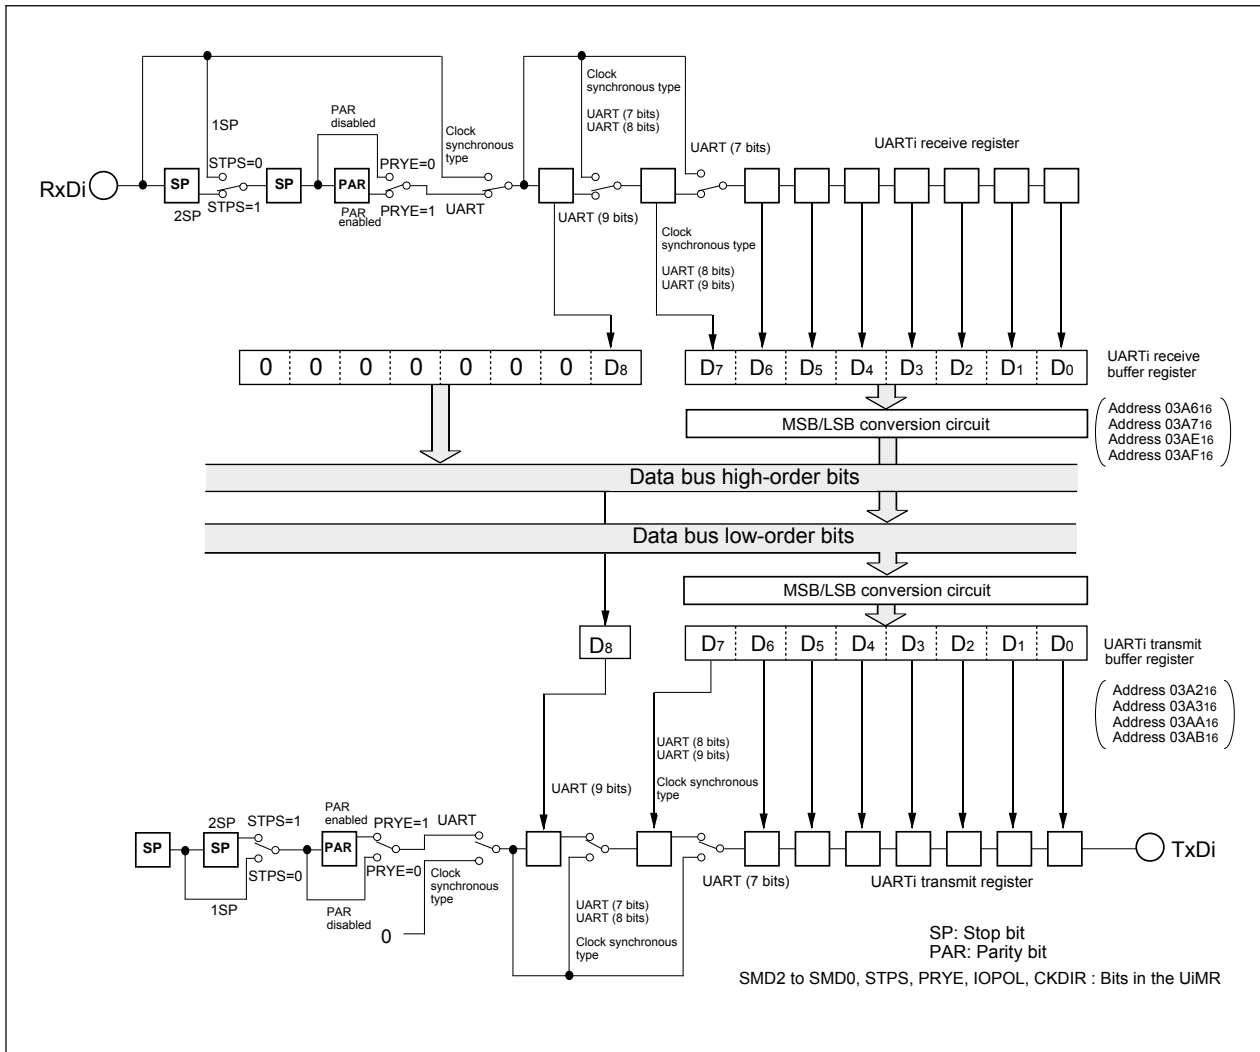

Figure 14.2 Block diagram of UARTi (i = 0, 1) transmit/receive unit
**Figure 14.1** shows the block diagram of UARTi. **Figures 14.2** and **14.3** shows the block diagram of the UARTi transmit/receive.